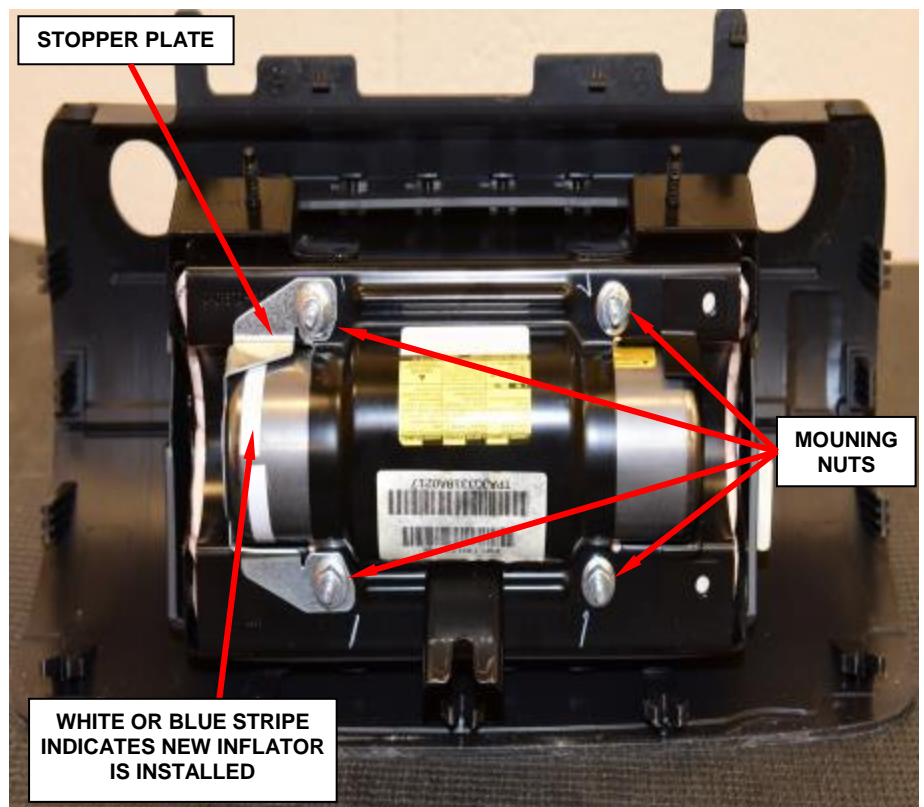

Figure 121 – Retrofit Complete
- o. Install the stopper plate to the airbag module (Figure 121).
- p. Install the four new mounting nuts to the airbag module and tighten to 62 in. lbs. (7 N·m) (Figure 121).
- q. Passenger airbag retrofit is complete (Figure 121).